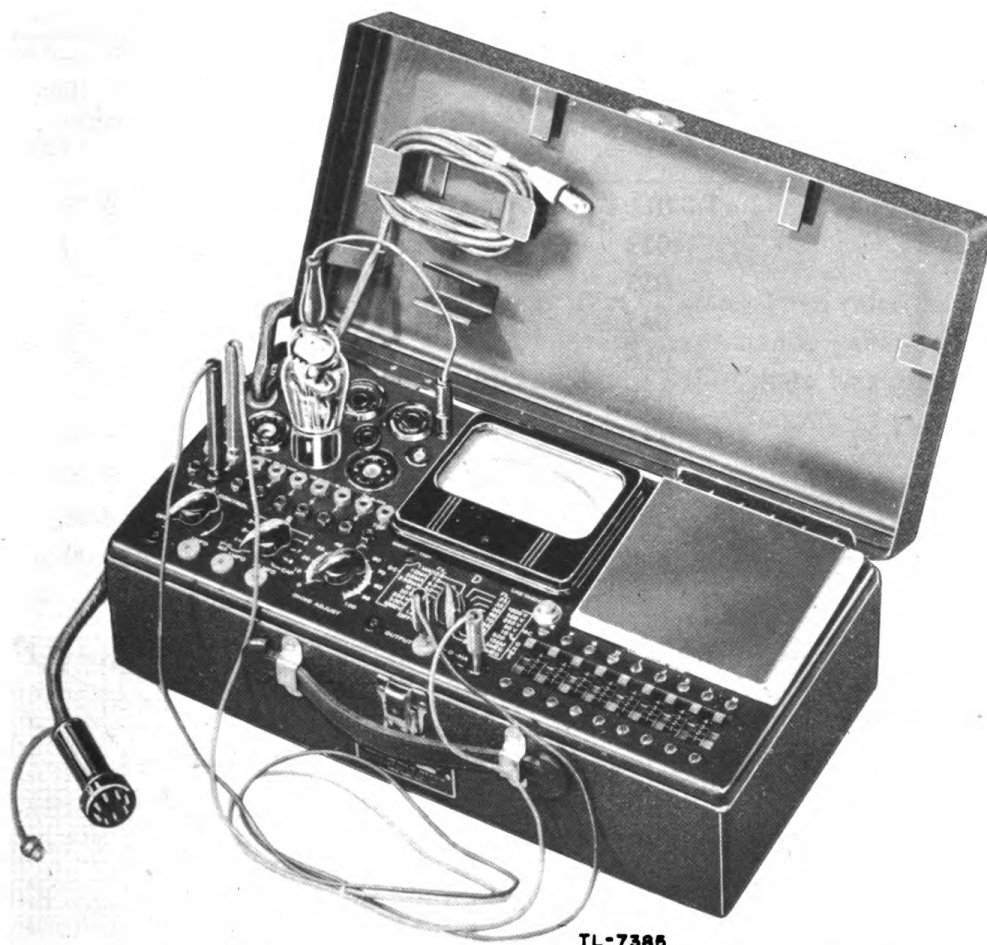

FIG. 9. COMBINATION TESTER, FREE-POINT CURRENT MEASUREMENTS
- b. Using the **red** test lead, connect the **red V-O-MA** jack to the red jack corresponding to the electrode being measured (fig. 9).
NOTE: Current is measured between red and black jacks of the same number (fig. 9). Voltage or resistance is measured between black jacks or a black jack and the chassis.